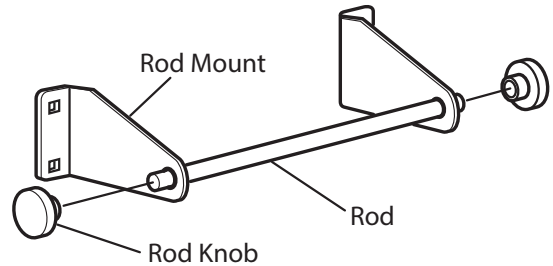

Figure 4-23
3. Insert threaded ends of the Rod (item #9) through hole in each Rod Mount (items #8 & #10) and tighten a Rod Knob (item #7) onto each threaded end. Make sure the Rod Mounts are oriented as shown in Figure 4-23 with the flanged ends pointing out.